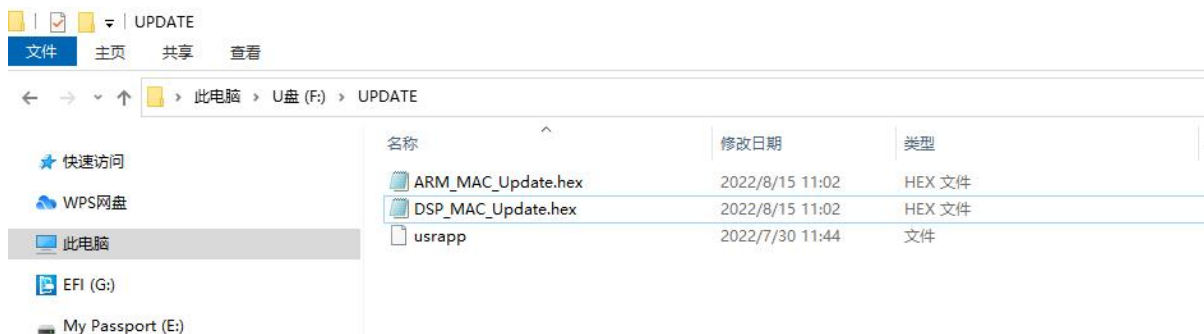

Figure 5.24 Storing the upgrade software
5. LCD touch screen software is completed, click on the "Restart" button, the version of the refresh to take effect, as shown in Figure 5.24. Customers can be based on the actual situation of the DSP and ARM upgrade is completed, and then click on the "Restart".